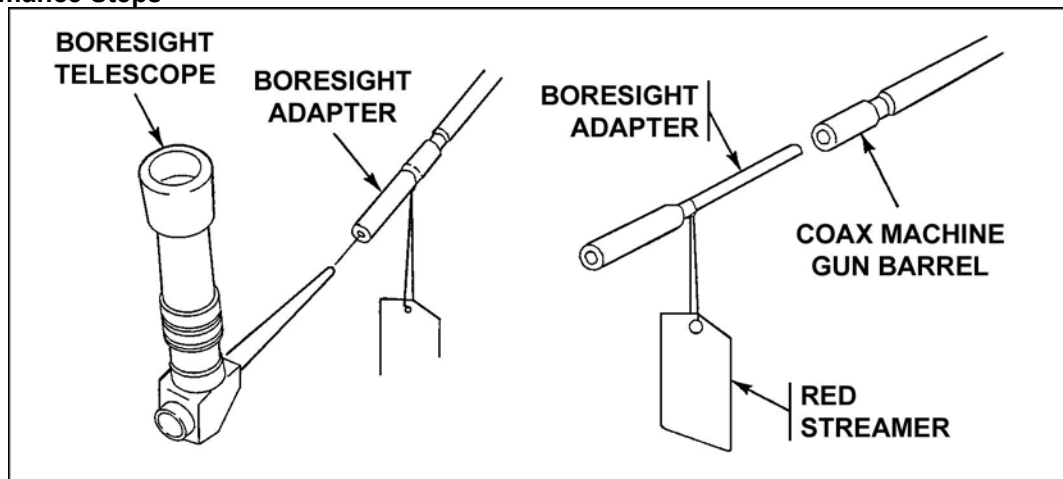

Figure 29. Coax boresight adapter and boresight telescope.
- (1) Select HI MAG using the HI/LO MAG switch on the GHS.
- (2) Manually traverse the turret and elevate or depress the gun until the boresight telescope reticle is centered on the boresight panel.
- (3) Remove the boresight telescope and 25mm adapter with streamer from the 25mm gun barrel.
- (4) Install the boresight telescope and 7.62mm adapter with streamer into the 7.62mm coaxial machine gun barrel (Figure 29).